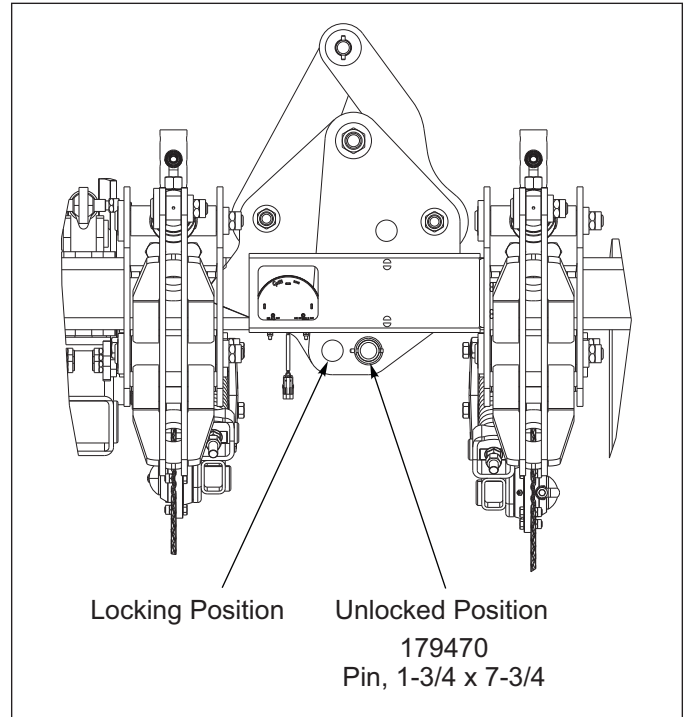

Figure 4-2: Folding Frame Wing Lock
Escaping hydraulic fluid can cause serious personal injury. Relieve system pressure before repairing, adjusting, or disconnecting. Wear proper hand and eye protection when searching for leaks. Use cardboard instead of hands. (See Figure 4-2.) Keep all components (cylinders, hoses, fittings etc.) in good repair.
6. To lock the Wing Assembly down, remove the pin from the unlocked position, and into the locking position. *See Figure 4-2.*
The wing fold hydraulic system MUST be operated in float once the wings are unfolded OR the wings MUST be locked down. Failure to do so may result in wing fold cylinder damage. *See Figure 4-2.*